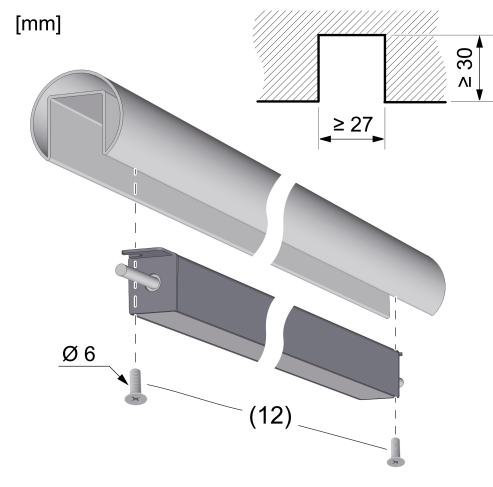

Figure 2: Mounting the luminaire
- In the mounting base material (e.g. handrail), prepare a groove according to drawing (Figure 2).
- Fasten LED luminaire with stainless steel screws (12) in the groove (Figure 2).